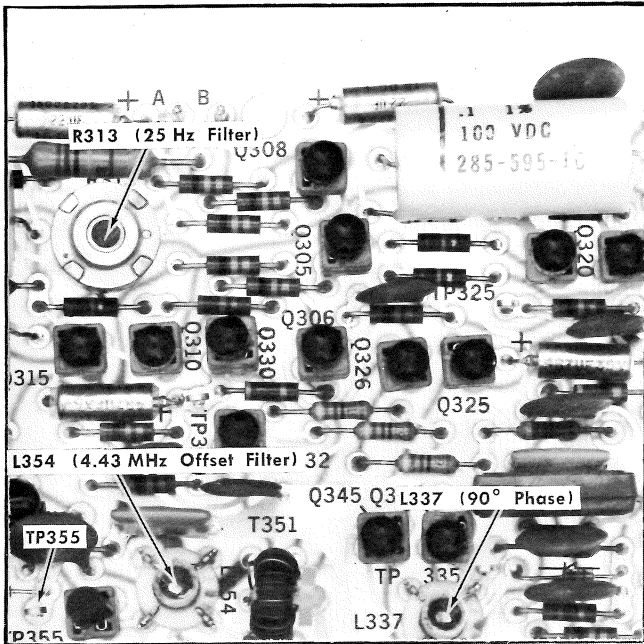

Fig. 5-20. Horiz Colour Lock board adjustment and test point locations.
b. Connect the $10\times$ probe to TP355 on the Type R141A Horiz Colour Lock board (see Fig. 5-20).
e. ADJUST—25 Hz Filter control, R313; 4.43 MHz Offset Filter adjustment, L354, (see Fig. 5-20) for maximum signal amplitude as measured on the test oscilloscope.
g. ADJUST— 90° Phase adjustment, L337, (see Fig. 5-20) for minimum modulation of the display.